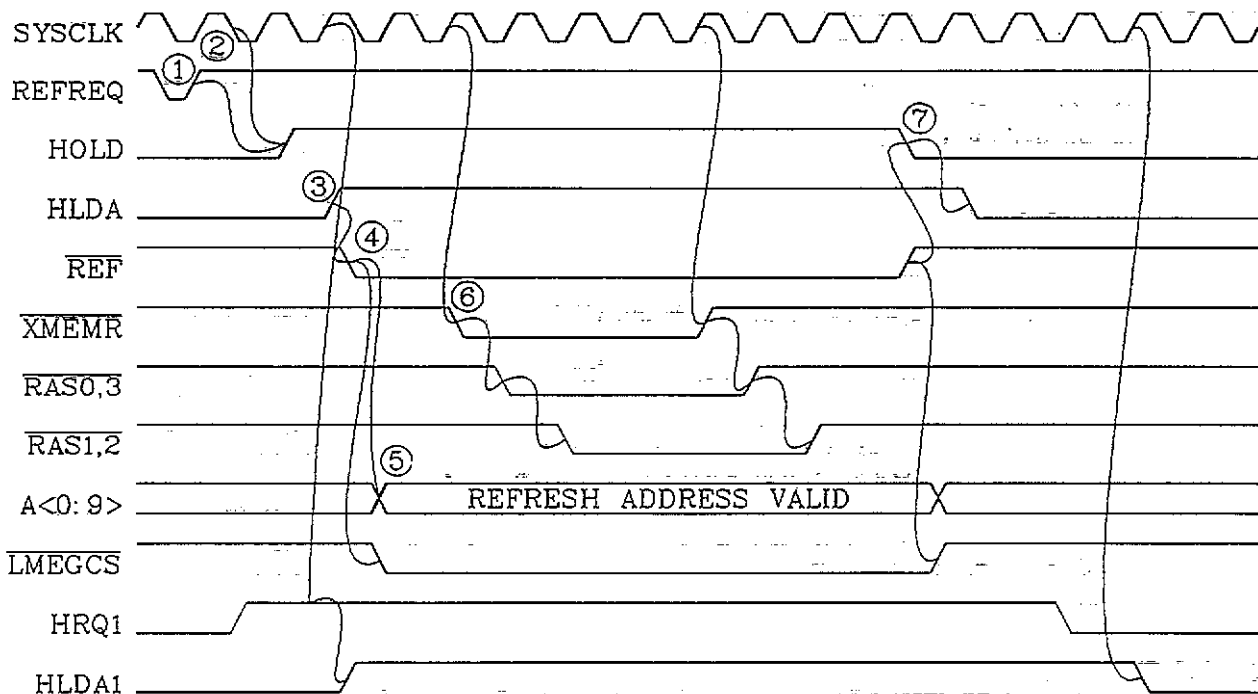

Figure 1.4 Refresh / DMA Cycle
Figure 1.4 shows a Refresh/DMA cycle. The rising edge of REFREQ (1) sets an internal flag in the 82C811. On the first rising edge of SYSCLK, a hold request to the CPU (HOLD) is activated (2). When the CPU finishes with its current activity and releases the bus, it activates hold acknowledge (HLDA) (3). The 82C811 then begins the refresh cycle by activating REF* (4). The 82C812 immediately returns all RAS* lines to their inactive state. After REF* is activated, the 82C811 places the refresh address on A0-A9 (5), and activates XMEMR* (6). After refresh is complete, XMEMR* and REF* are driven to inactive states. HOLD also returns to an inactive state, and the CPU regains control of the bus (7).